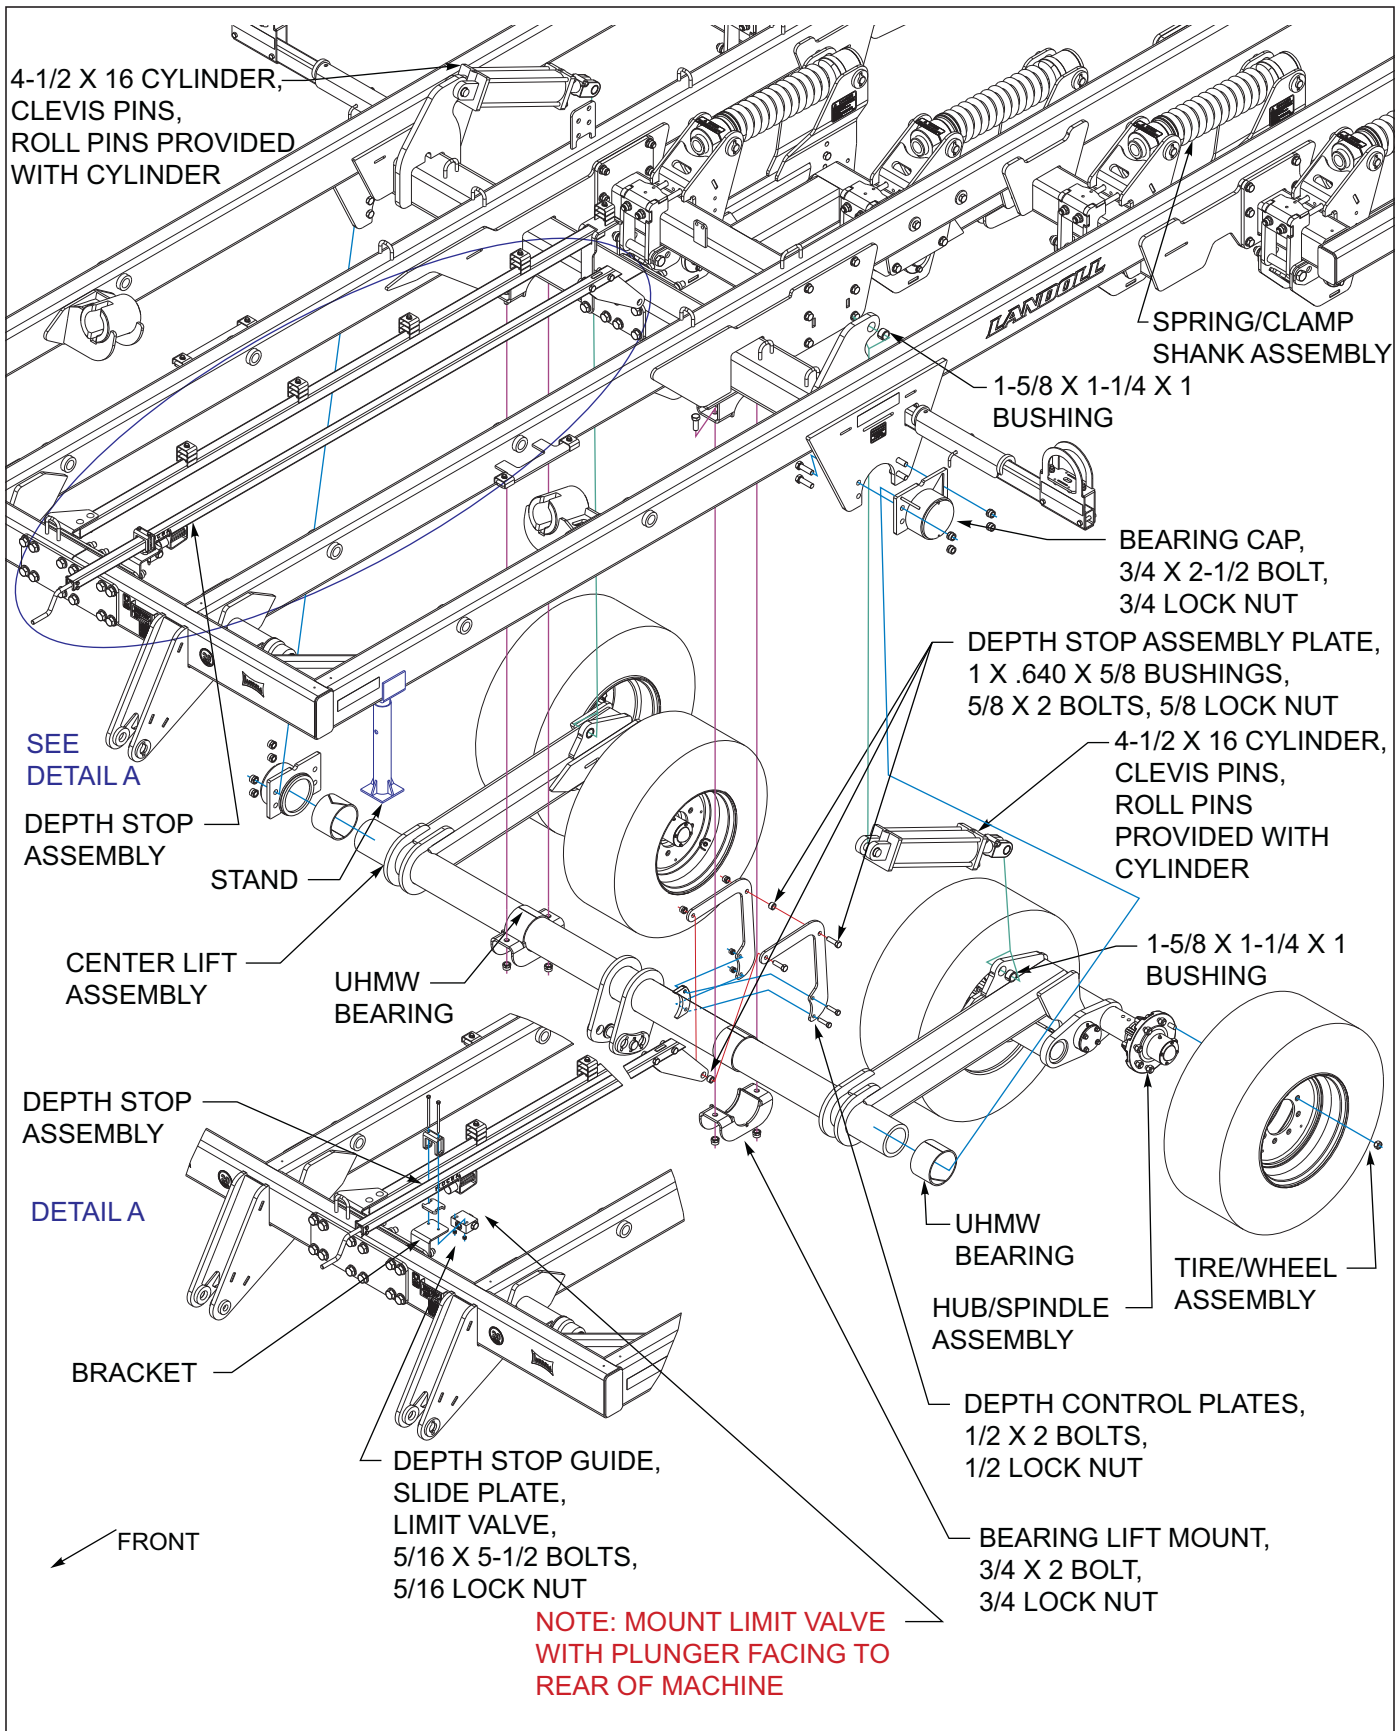

Figure 3-2: Center Frame Lift Assembly 2411-06
11. Install a UHMW bearing between all 4 inner bearing locators around the center lift assembly *See Figure 3-2*.
Be sure the 4, 1-5/8 x 1-1/4 x 1 bushings are installed in the lift plate mounts and center lift assembly mount plates *See Figures 3-2*.